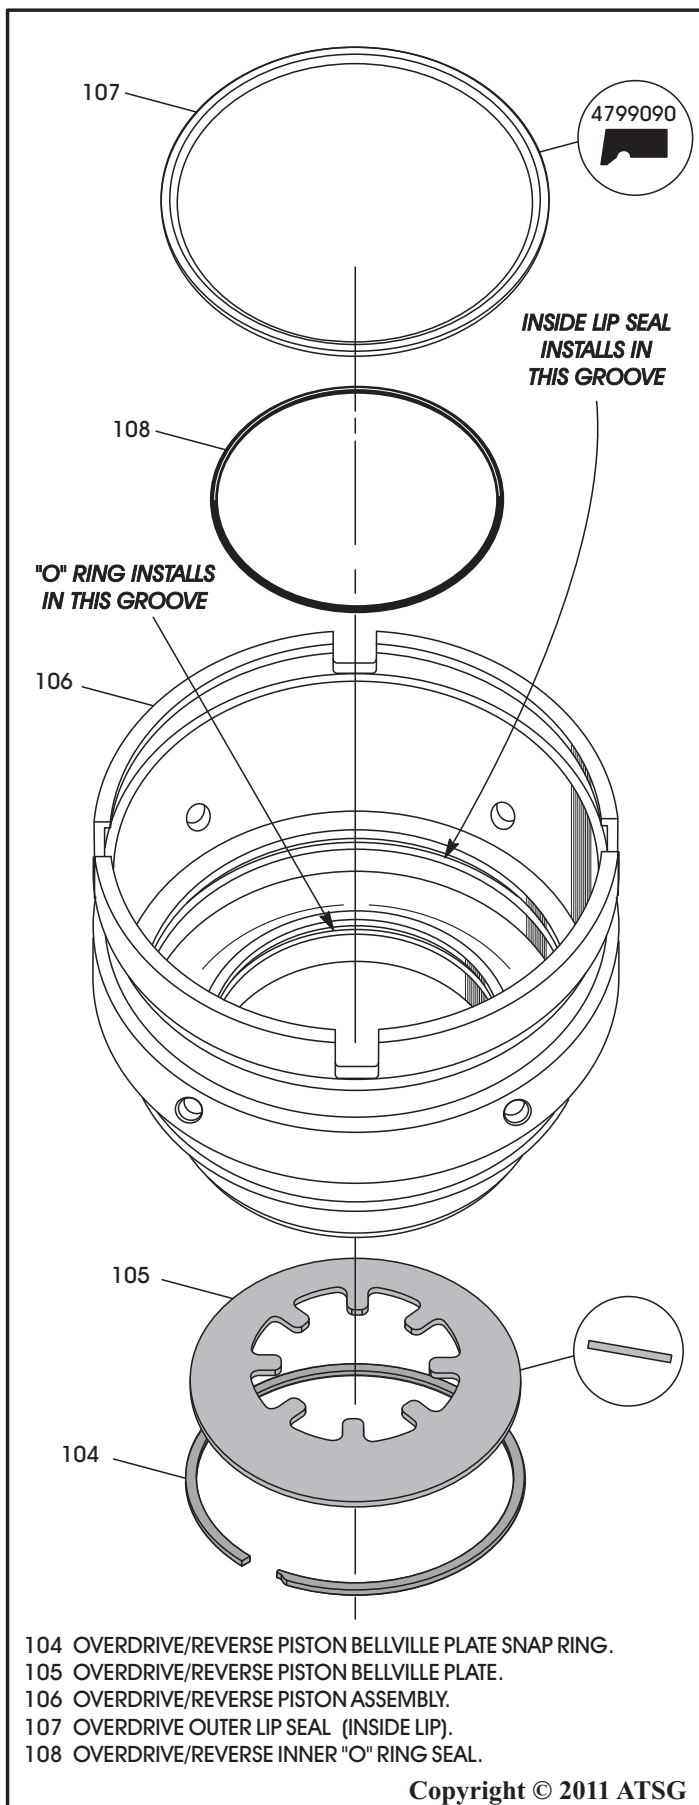

Figure 97
10. Install the overdrive/reverse bellville plate and the retaining snap ring as shown in Figure 97, if they were removed.
11. Install the overdrive outer lip seal into groove inside the overdrive/reverse piston, with the lip facing down, as shown in Figure 97.
12. Install the overdrive/reverse inner "O" ring seal into the groove in the overdrive/reverse piston as shown in Figure 97.